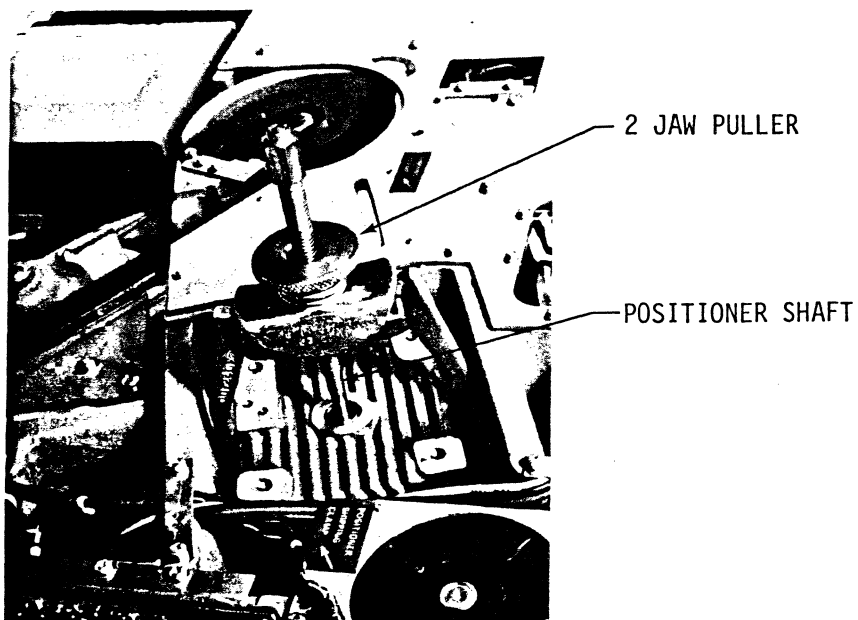

Figure 5-29
d) Place puller onto lower end bell as shown in Fig. 5-29.